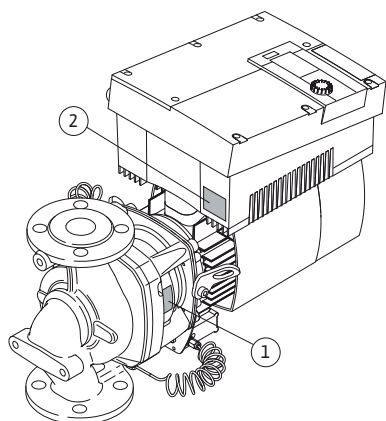

Fig. 10: Arrangement of the name plates:
- The pump name plate (Fig. 10, Item 1) includes the serial number (Ser.-No.../...), which is, for example, required for spare parts ordering.
- The electronic module name plate (electronic module = inverter or frequency converter) (Fig. 10, Item 2) indicates the designation electronic module being used.